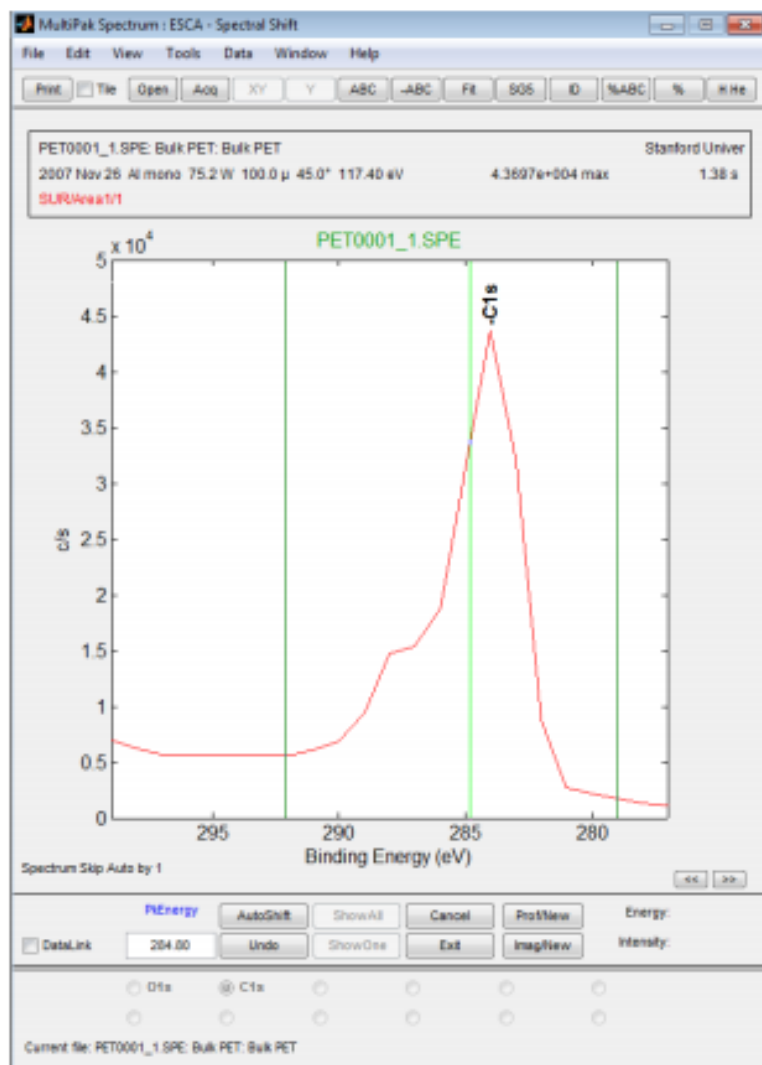

FIG 9. Shift Setup Module in Data.
1. **Open (1) or Acq (2).**
2. **ID (9)** to Find and Identify Peaks.
3. If the charging has moved the peaks far enough that **ID** does not find the obvious peaks such as C and O, manually click "C" in the Periodic Table Window (**H He (12)**).
6. A Green line cursor will display in the window. At the bottom of the window it will list PkEnergy and display 284.8eV, the ref. value for C-C/C-H. (See **FIG 9**).